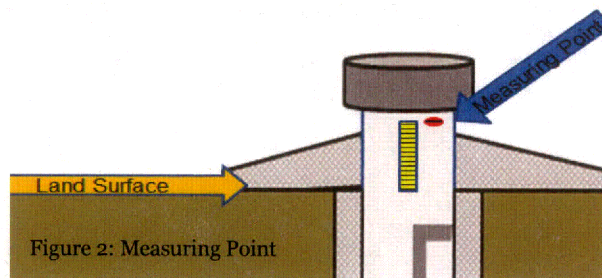

Figure 2: Measuring Point
The permanent measuring point (see **Figure 2**) can be surveyed and designated as elevation above mean sea level (msl). If your measuring point is surveyed, and you know the elevation, then your water level measurements will be in elevation (feet) above msl by subtracting the depth to the water from the elevation of the measuring point.
2. Establish a measuring point as previously shown in Figure 2.